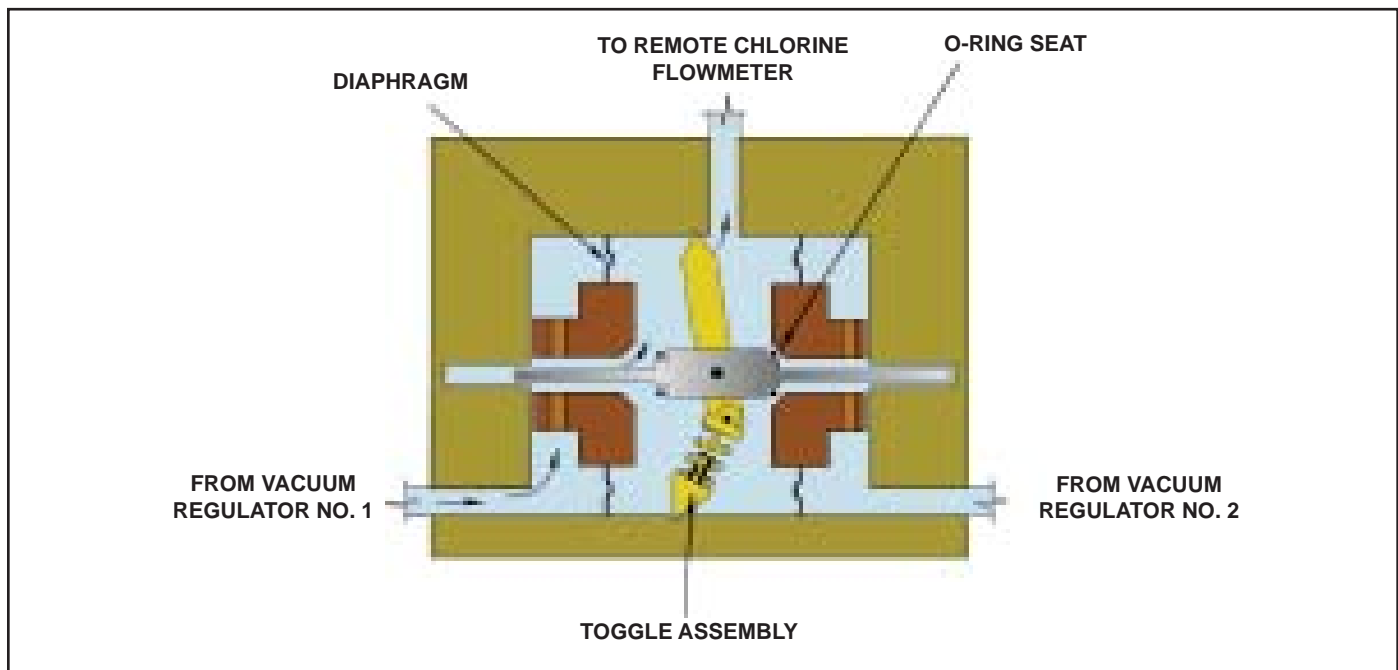

Figure 1 - Flow Diagram
1.1 Principle of Operation (See Figure 1)